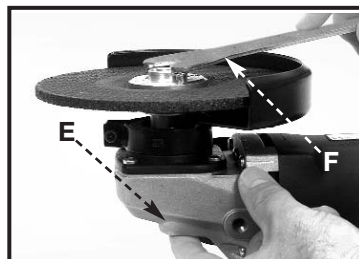

Fig. 7
6. Depress the spindle lock pin (E) Fig. 7, and hold while rotating the grinding wheel clockwise by hand until the spindle lock engages.
7. Continue holding the spindle lock pin while placing the lugs of the spanner wrench (F) Fig. 7 into the holes of the outer flange. Tighten securely by turning clockwise.